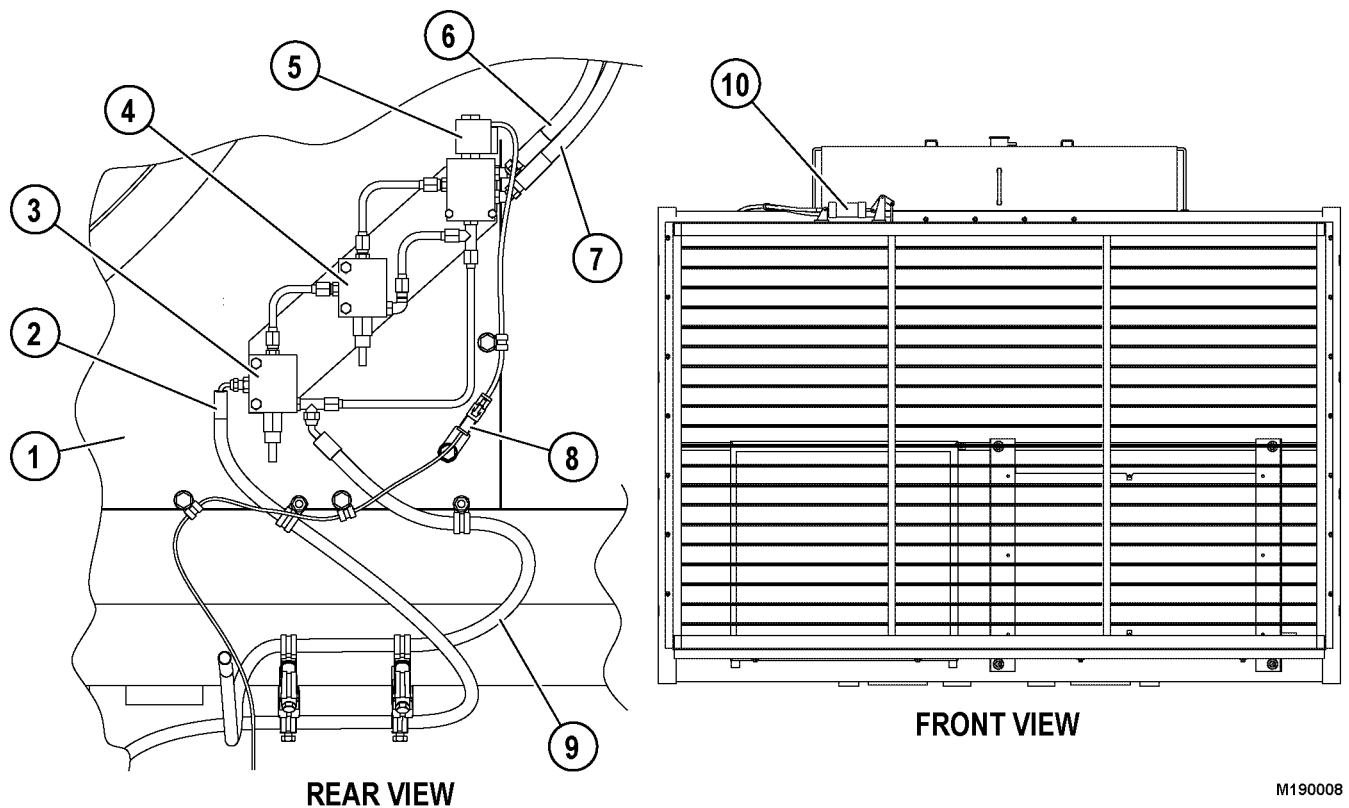

FIGURE 19-1. SHUTTER ACTUATOR CYLINDER OIL SUPPLY VALVES
Hydraulic oil pressure to operate the shutter assembly actuator cylinder is supplied from the truck steering circuit. Hose (2, Figure 19-1), which is attached to a “T” fitting at the automatic lubrication system pump supply port, routes oil to pressure reducing valve (3). This valve reduces the steering circuit pressure from 24 132 kPa (3,500 psi) to 10 342 kPa (1,500 psi). The pressure is further reduced to 517 kPa (75 psi) by pressure reducing valve (4). This valve supplies the oil to shutter solenoid valve (5) to pressurize the head end of the shutter actuator cylinder (10), which closes the shutters during engine warm-up. When the shutters are signalled to open, the solenoid valve will be de-energized and the spool will shift to direct oil to the rod end of the actuator cylinder. Oil returns to the hydraulic tank through hose (9).
Solenoid valve (5, Figure 19-1) and pressure reducing valves (3) and (4) in the hydraulic circuit are factory set and are not adjustable. If a valve is inoperative, replace the complete valve and body assembly.